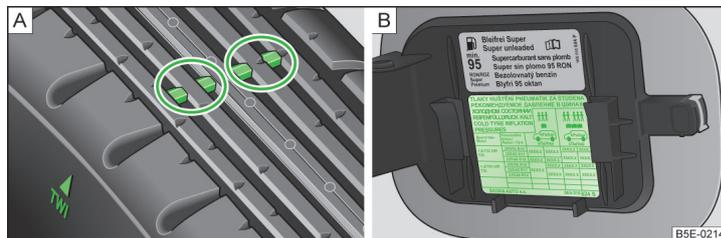

Fig. 171 Principle sketch: Tyre tread with wear indicators/open fuel filler flap with a table detailing the tyre sizes and tyre inflation pressures
The tyre pressures for **tyres** are shown on the inside of the fuel filler flap » Fig. 171 - B.
The base of the tread of the tyres contains a 1.6 mm high wear indicator » Fig. 171 - A. In some countries, different tyre wear rates may apply.
- › The temporary spare wheel is inflated to the maximum inflation pressure for the vehicle » Fig. 171 on page 198.